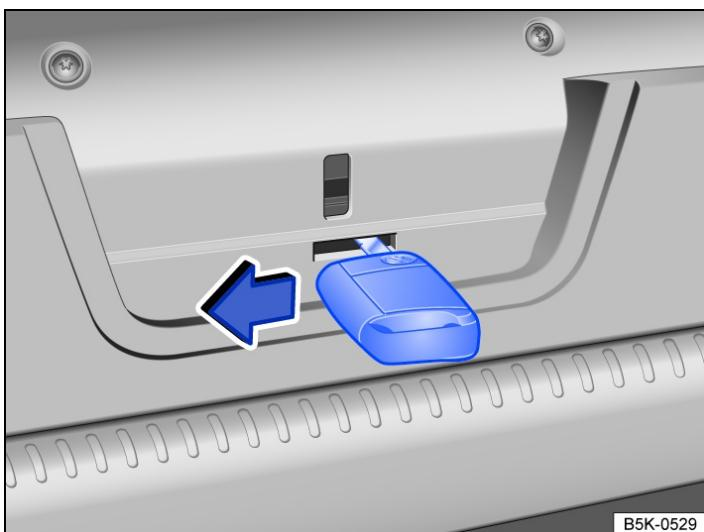

Fig. 2 In the boot lid: manual release mechanism for the boot lid.
- Insert the key bit into the opening in the boot lid → *Fig. 2* and press the release lever in the direction of the arrow.